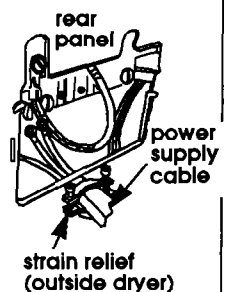

Figure 11
4. Attach 3/4" U.L.-listed strain relief (U.L. marking on strain relief) to the hole below terminal block opening (see Figure 11). Tighten strain relief firmly to cabinet so it is in a horizontal position. Place direct wire cable through strain relief.